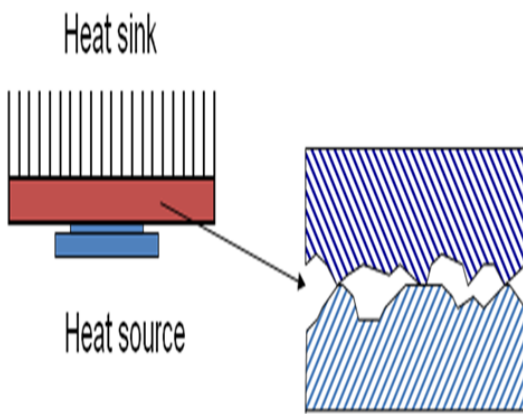

Figure 3: Air gap between heat sink and package
- Perfect contact can never be ensured between the heat sink and the package, this result in air gaps between them, see Figure 3, which represent a significant resistance to heat transfer. To combat this problem, it is necessary to use a thermal interface material (TIM).